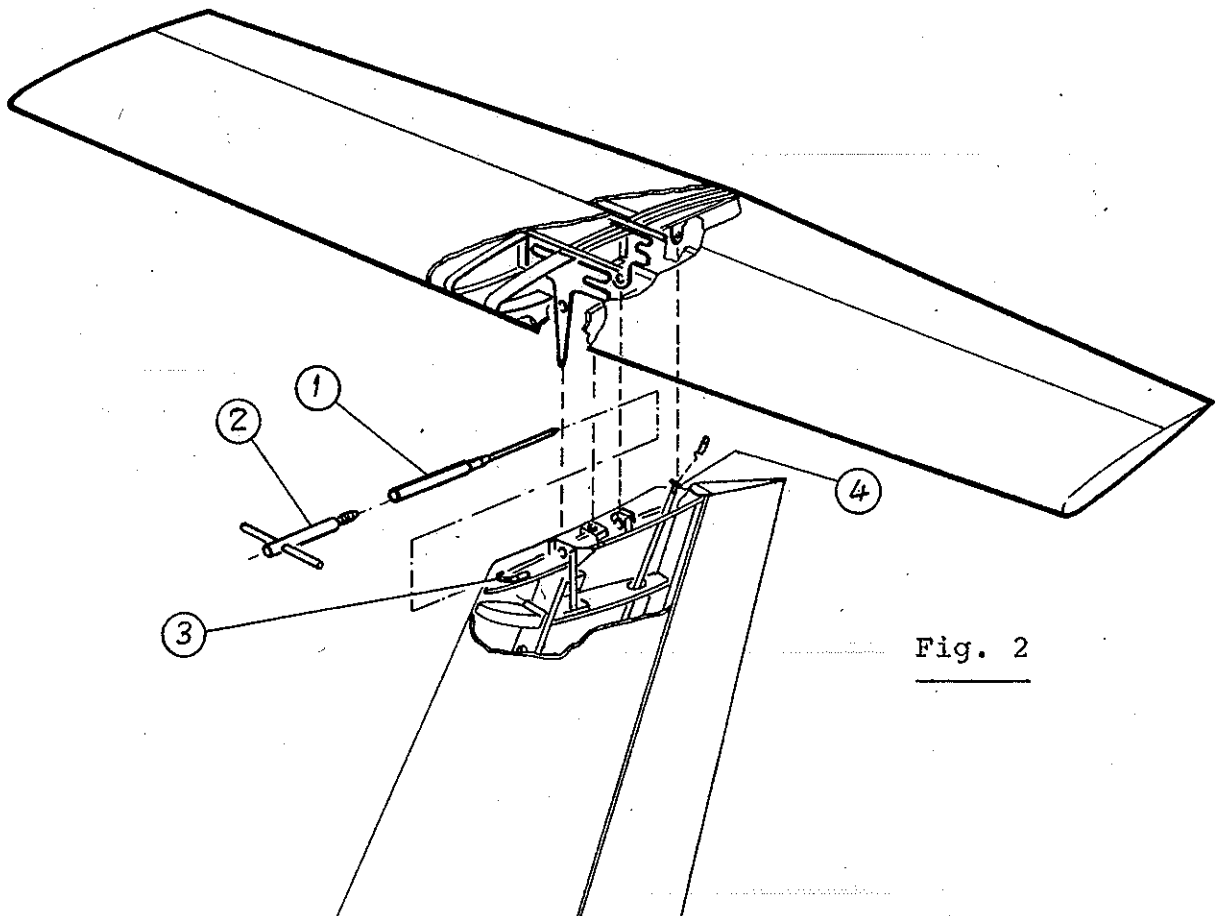

Fig. 2
1.3 Empennage Assembly (see Fig. 2)
- Pull out attachment bolt (1), using handle (2).
- Install attachment bolt (1); screw out the handle and stow it in the cockpit bag. Ensure that the safety spring (3) is engaged.
- Reconnect elevator control rods by installing pin (4) and secure it.